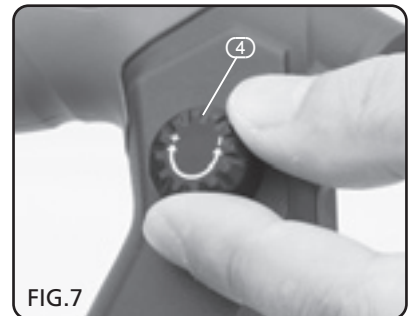

FIG.7
9.3 CHANGING THE POWER LEVEL – FIG. 7